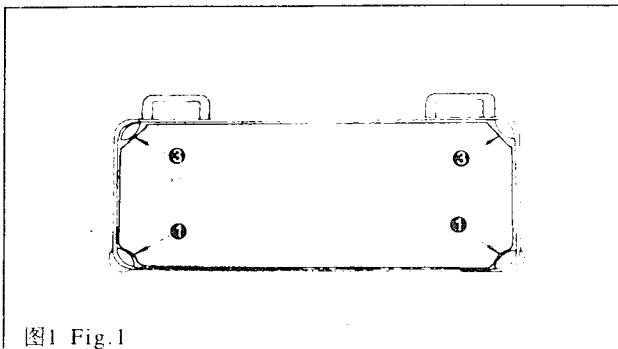
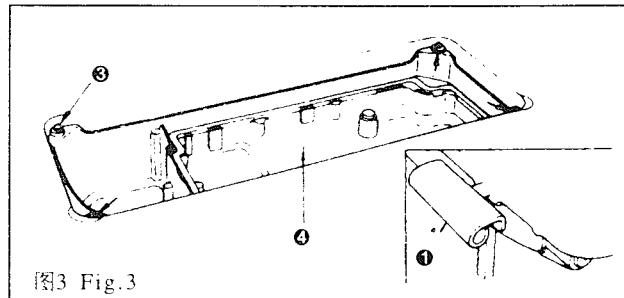
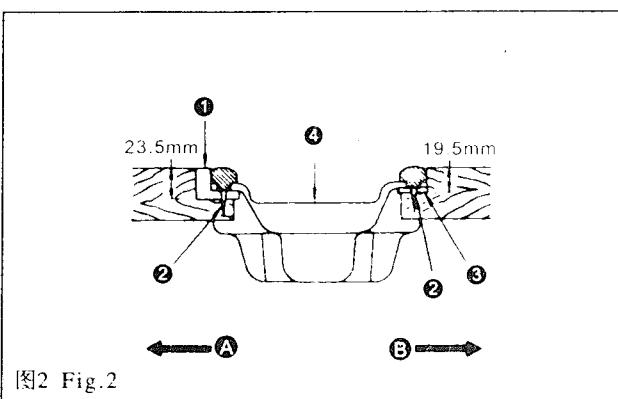
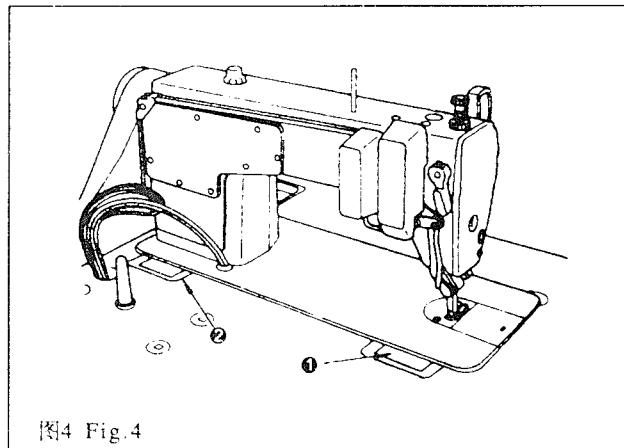

图1 Fig.1
图3 Fig.3
图2 Fig.2
图4 Fig.4
1. 机器的安装(图1、图2、图3、图4)
1. INSTALLATION (Fig.1, Fig.2, Fig.3, Fig.4)
- 2) 如图所示, 将两只油盘支座①用油盘座钉②固定在A一边(朝操作者一边), 将两只油盘座垫③用油盘座钉②固定在B一边(用机头连接钩接合一边), 最后把油盘④放在其上。(图1、图2)
- 3) 将机头连接钩①放入底板孔内, 与台板的机头连接钩座②相嵌合, 再将机头放到四只角的机头座垫③上。(图3、图4)
- 2) Fix two rubber seate ① on side A (operator's side) using nails ② as illustrated above. Fix two cushion seats ③ on side B (hinged side) using nails ②. Then place oil pan ④ on the fixed seats. (Fig.1, Fig.2)
- 3) Fit hinge ① into the opening in the machine bed, and fit the machine head to table rubber hinge ② before placing the machine head on cushions ③ on the four corners. (Fig.3, Fig.4)